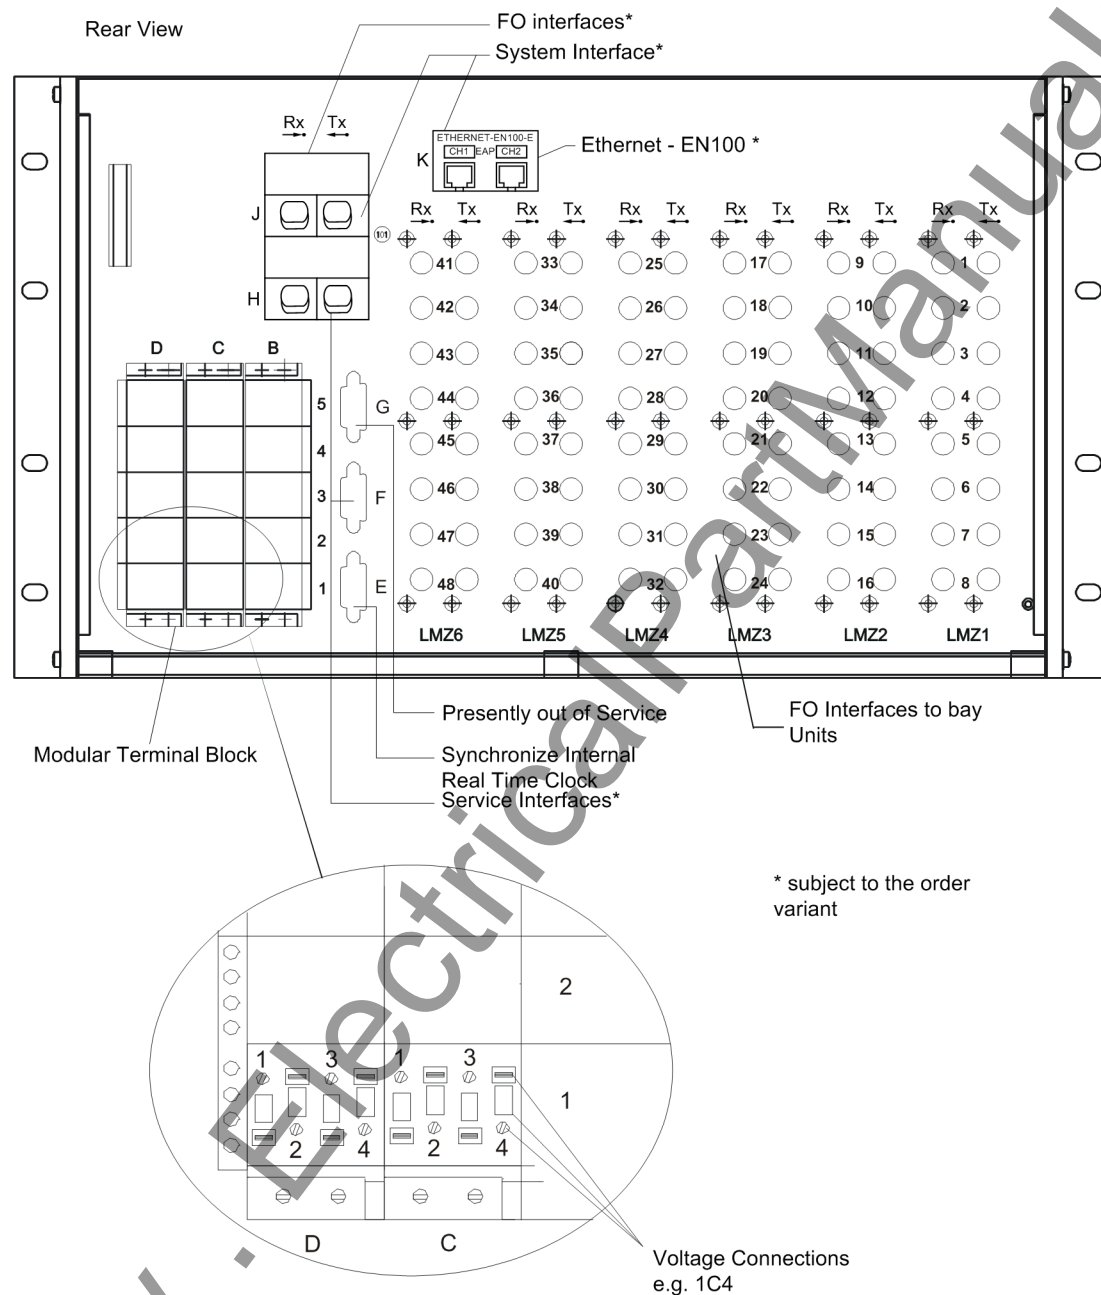

Bild 2-6 Device connections on central unit
On the rear side of the central unit, terminal blocks are provided for the external electrical connection of the power supply module (SV), the I/O module (EAZ) and the communication module (D-CPU). For each electrical connection point, there is one screw-type and one snap-in connector for the station wiring. The terminal blocks are identified according to their position in a coordinate system. The connections inside a block are numbered from left to right, see the example in Bild 2-6, page 22.
Central unit	Depending on the variant ordered, the service and the system port on the rear of the central unit may have additional fiber-optic connections (Bild 2-6, page 22). Moreover, the central unit is connected with the bay units by fiber-optic cables. The bay unit connectors are located on the back of the central unit (Bild 2-6, page 22).